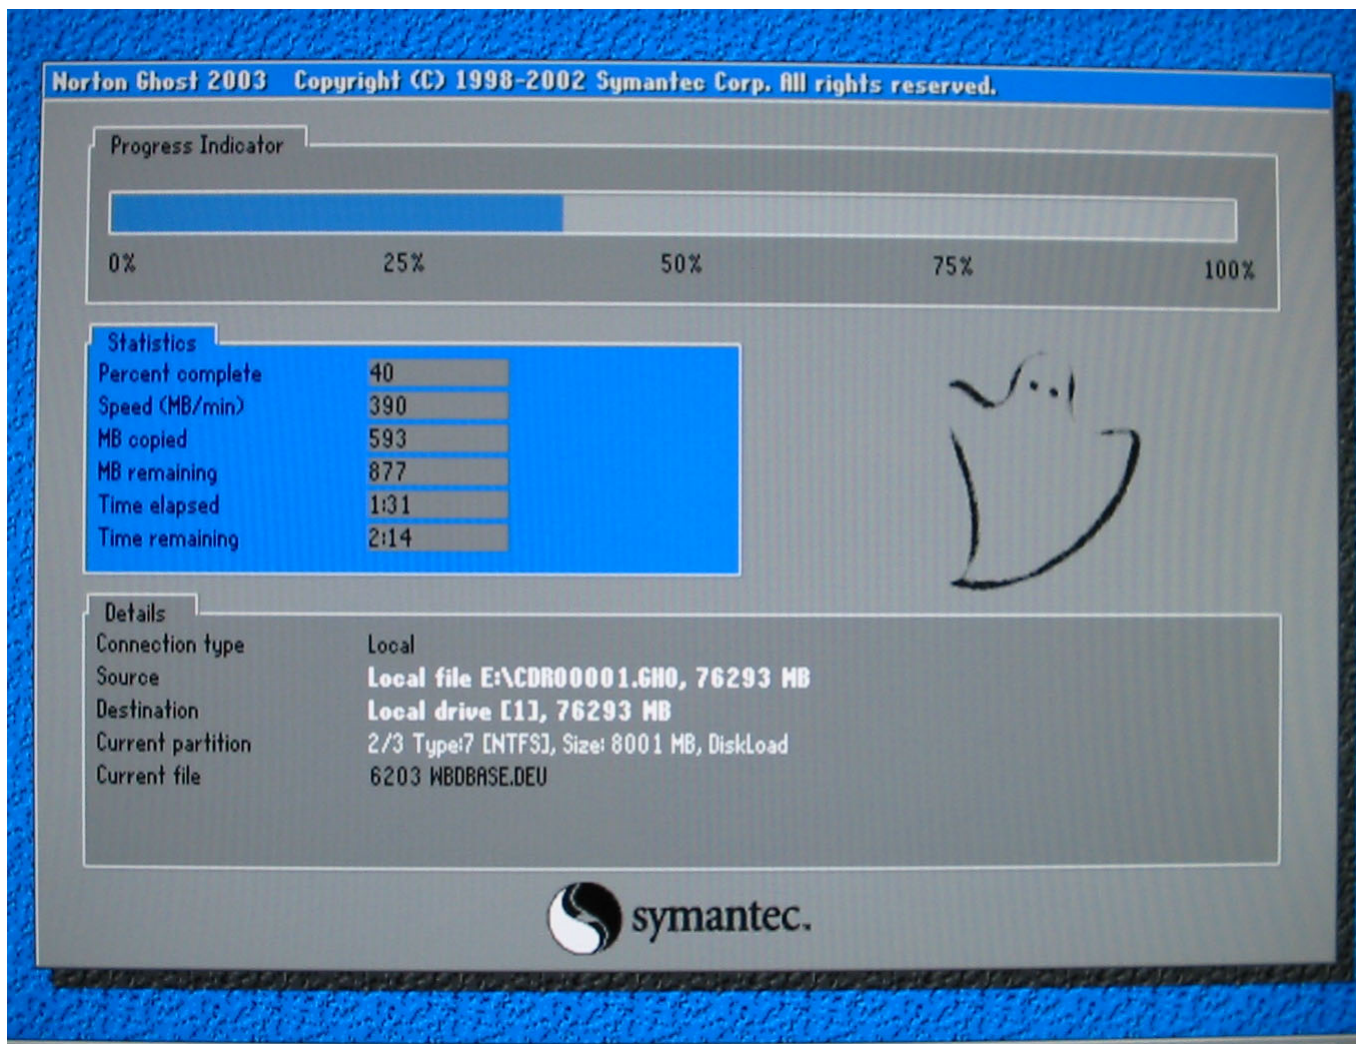

Figure 8-14 Ghost Surface
6.) While partition restore, the Ghost surface like on Figure 8-14 is shown on the screen.